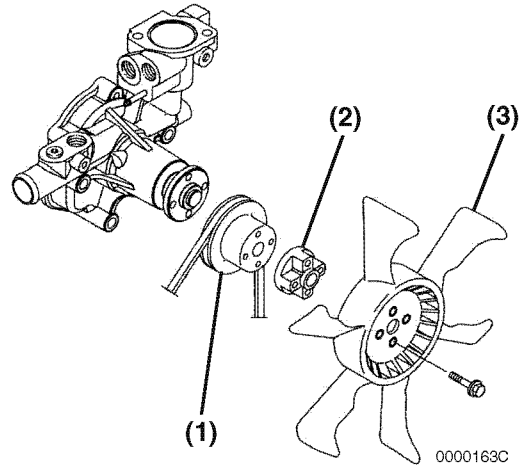

Figure 8-14
4. Reinstall the engine coolant pump V-pulley (**Figure 8-14, (1)**), spacer (**Figure 8-14, (2)**) engine coolant fan (**Figure 8-14, (3)**) and engine coolant fan guard (if equipped).